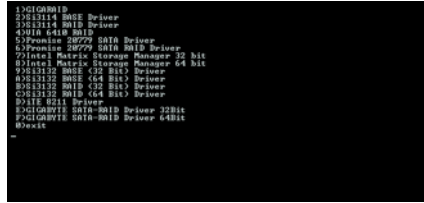
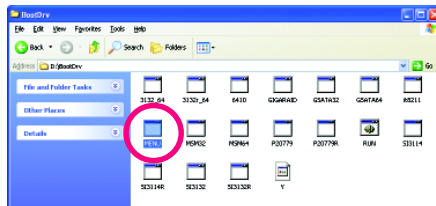

Figure 2
Figure 3
Step 2: When the controller menu (Figure 2) appears, remove the startup disk and insert the blank formatted disk. Select the controller driver by pressing the corresponding letter from the menu. For example, from the menu in Figure 2, select **7) Intel Matrix Storage Manager 32 bit** for Windows 32-bit operating system or **8) Intel Matrix Storage Manager 64 bit** for Windows 64-bit.
Use an alternative system and insert the motherboard driver disk. From your optical drive folder, double click the MENU.exe file in the BootDrv folder (Figure 3). A command prompt window will open similar to that in Figure 2.